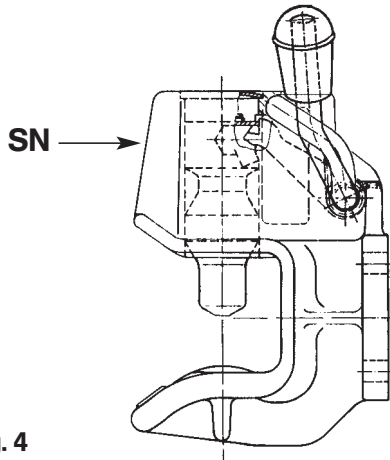

Fig. 4
- Open coupling (see Fig. 4) to avoid excessive lubrication of automatic unit